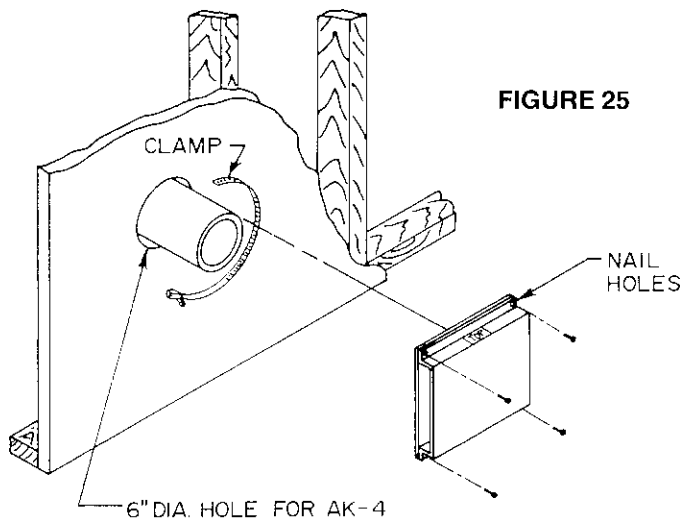

FIGURE 25
3. Cut a 5 inch diameter opening for model AK4 in the outside wall covering where the outside vent is to be located. (See figure 25).